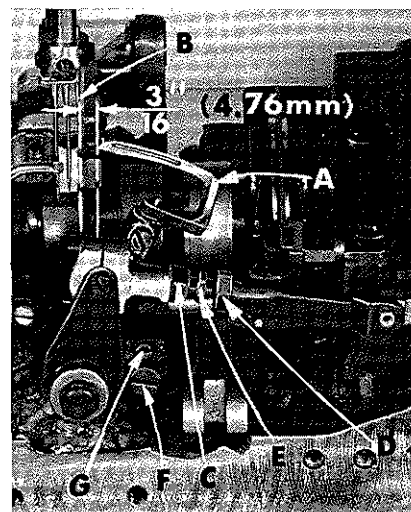

Fig. 8
Insert a new needle in the right needle seat, type and size as specified. If the looper gauge is  $\frac{3}{16}$  inch (4.76 mm), for example, set the looper (A, Fig. 8) so the distance from the center of the right needle (B) to the point of the looper is  $\frac{3}{16}$  inch (4.76 mm) when the looper is at its farthest position to the right. Looper gauge No. 21225- $\frac{3}{16}$  can be used advantageously in making this adjustment. Refer to chart for looper gauge setting and looper gauge number applicable to machine Style. If adjustment is required, loosen nut (C) (it has a lefthand thread) and nut (D) on connecting rod (E), turn the connecting rod forward or backward to obtain specified dimension. Retighten both nuts, first nut (D) and then nut (C). Make sure the left ball joint is in vertical position and does not bind after adjustment.
The looper is set correctly in line-of-feed, if, as it moves to the left, behind the needle, its point brushes, but does not pick at the rear of the needle. If adjustment is necessary, loosen lock screw (F, Fig. 8) and turn stop screw (G) as required. Turning stop screw clockwise sets the looper to the rear and turning it counterclockwise acts the reverse. Holding looper to the front while making this adjustment may prove helpful. Tighten lock screw when setting is obtained and re-check the adjustment.